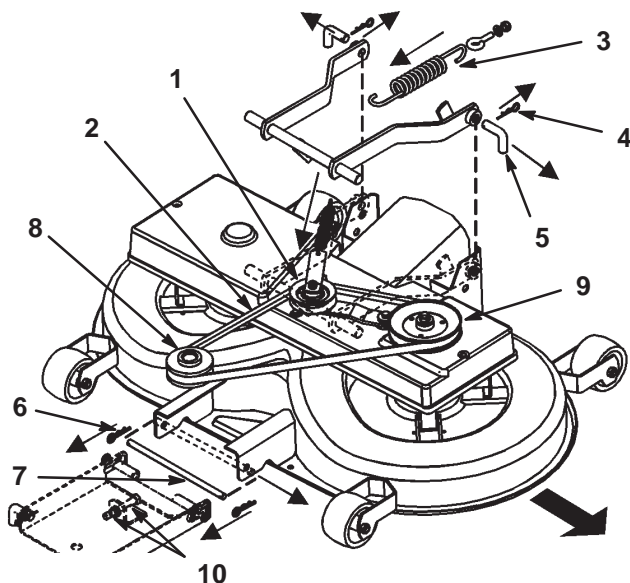

Figure 39
8. Pull the idler arm assembly in and remove the V-belt from the pulley (Fig. 39).
9. Disconnect the spring from the engagement lever (Fig. 39).
11. Remove the hairpin clips from the 2 rear pins and remove the pins (Fig. 39).
12. Remove the hairpin clip from the front pin and remove the pin (Fig. 39).
13. Remove the V-belt from the engine pulley (Fig. 39).
2. Remove the V-belt pulley and the idler arm assembly (Fig. 39).
7. Move the lower pin of the front adjustment suspension into the bottom position of the slotted holes by adjusting the 2 nuts (M12) on the front suspension (Fig. 39).